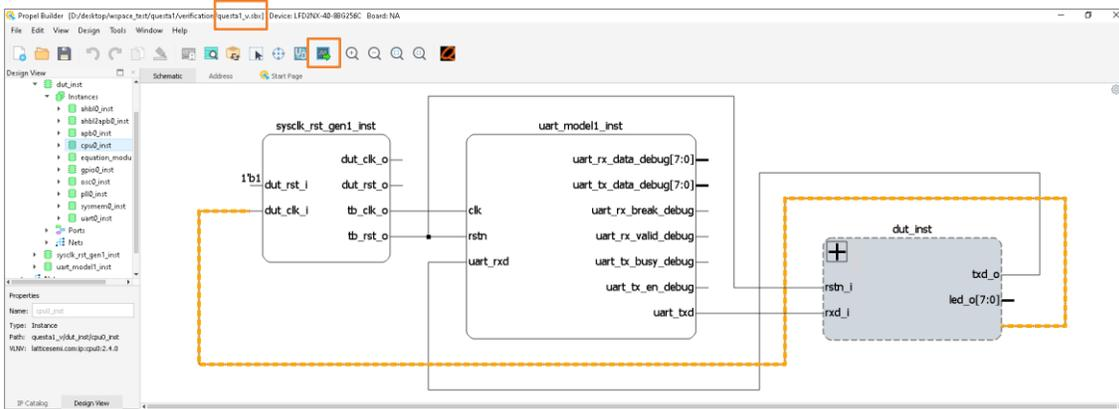

Figure 2.127. Launch Simulation in Verification Project
**Note:** SoC design project is called `***.sbx`. Verification project is called `***_v.sbx` (Figure 2.127).